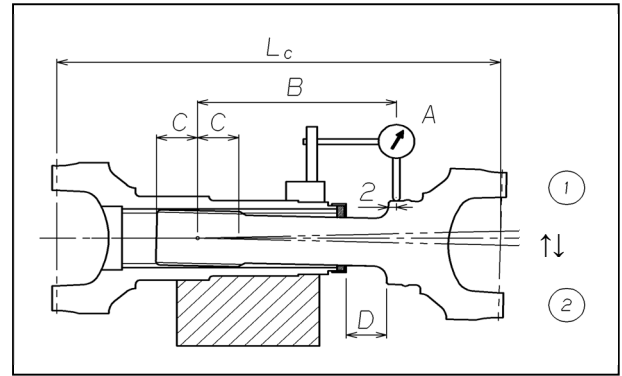

Figure 15 Play in radial direction in spline section
(1) Play in radial direction (amount of kink in male/female combination) (Figure 15)